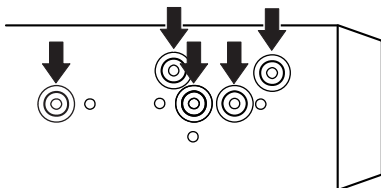
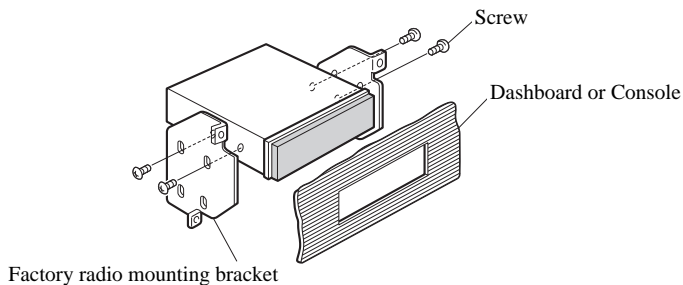

Fig. 16
Fig. 17
2. Fastening the unit to the factory radio mounting bracket. (Fig. 16) (Fig. 17)